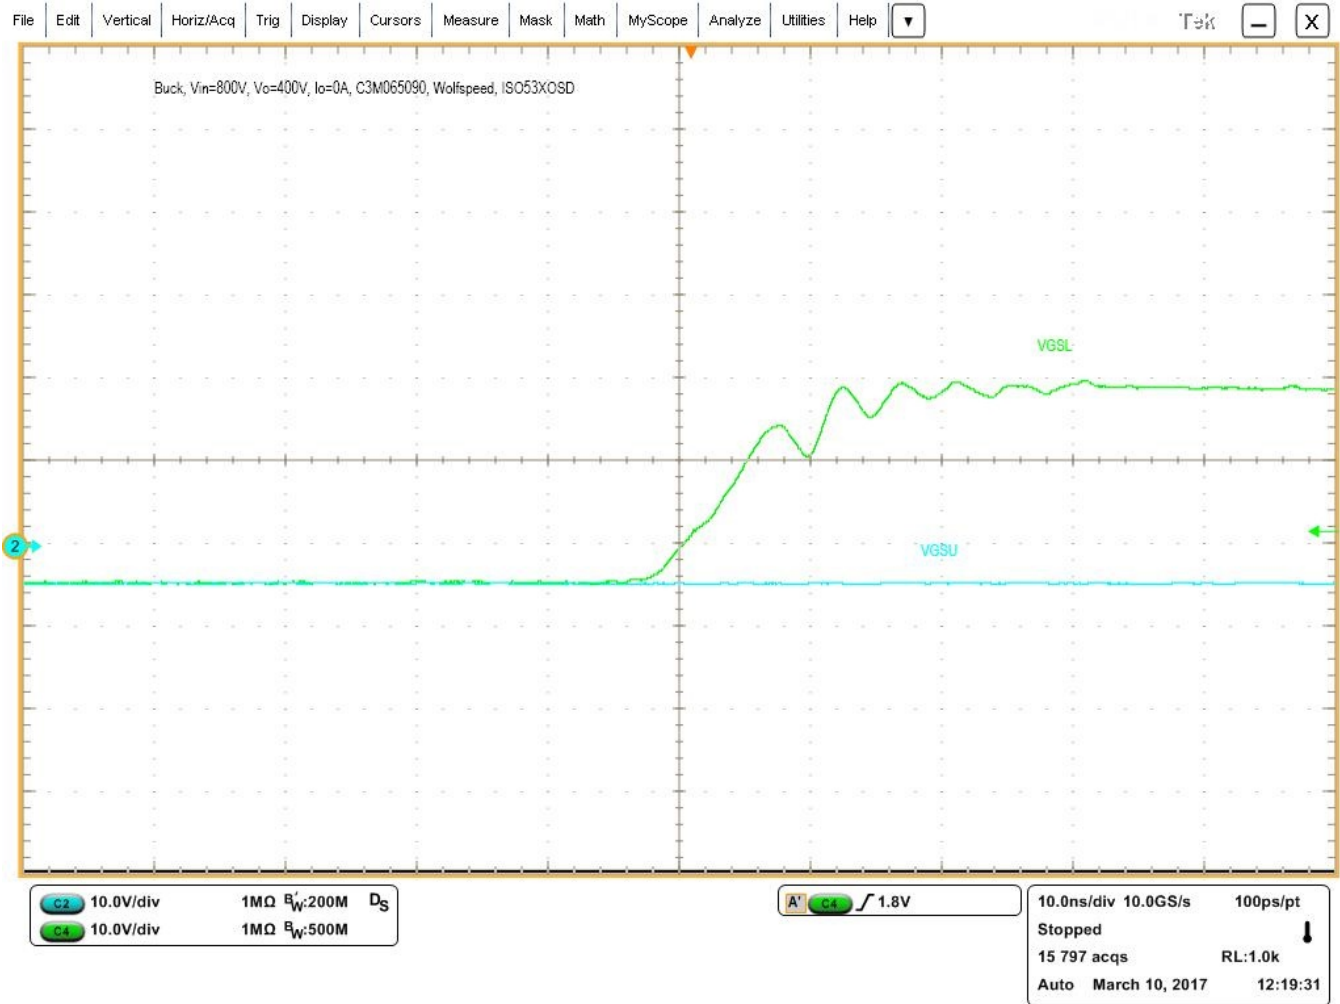

Figure 7. Expanded Gate-Source Drive Voltage Rise Time
1. Expand the horizontal scale of oscilloscope from 2 μs/div to 10 ns/div, and verify rise and fall time of the driver board indicating high output current capability of UCC5390SCD driver ICs (Figure 7 and Figure 8).